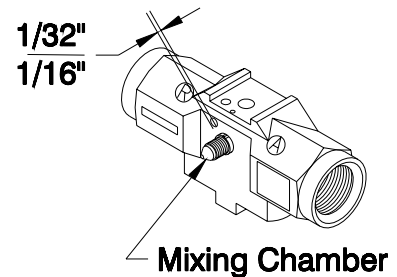

Figure 18. Mixing Chamber Location
- b) Using the Mixing Chamber Insertion Block, press the chamber into the block until the flange is 1/32" to 1/16" above the gun block face (See Figure 18).